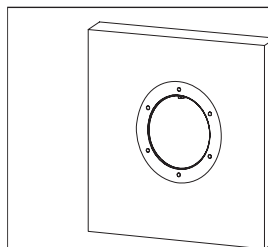

Figure 4
1. Embed the Shell into the concrete wall, making sure that it is parallel to the side of the pool (Figure 4).